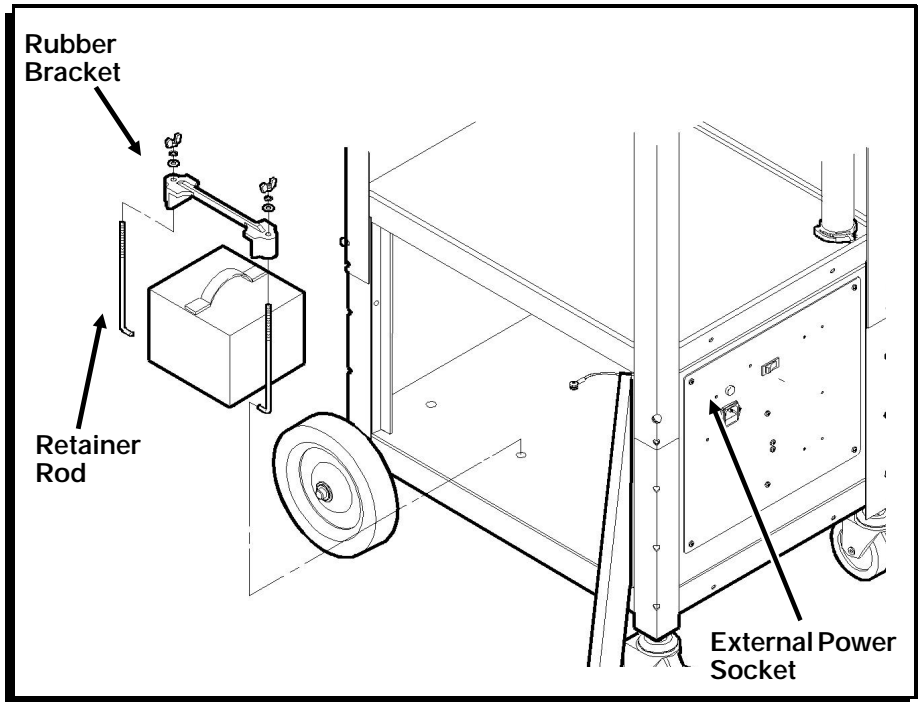

Figure 15
7. Position the charger between the retainer rods so the back of the charger rests against the metal L-bracket. The status lights on the front of the charger should face out. (Figure 15.)
8. Place the rubber bracket across the top of the charger. Use 1/4"-20 wing nuts, washers, and lockwashers to attach the retainer rods to the rubber bracket as shown. Tighten both wing nuts equally to secure the charger. (Figure 15.)
10. Plug the heavy-duty power cord into the external power socket on the outside panel of the Station. (Figure 15.)